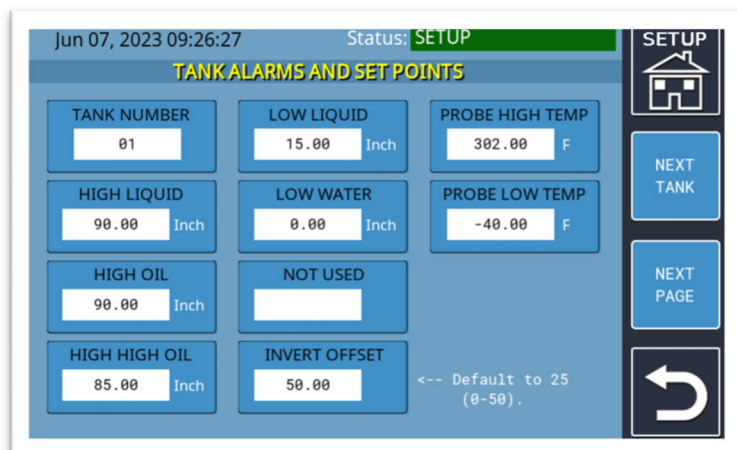

Figure 10.2
**IMPORTANT:** The PROTEUS® is now programmable for oil/water separator (OWS) applications. When choosing the OIL WATER SEPARATOR icon, the tank alarm points will change to HIGH-HIGH OIL, HIGH OIL, HIGH LIQUID, LOW LIQUID, and LOW WATER alarms. (See Figure 10.2).